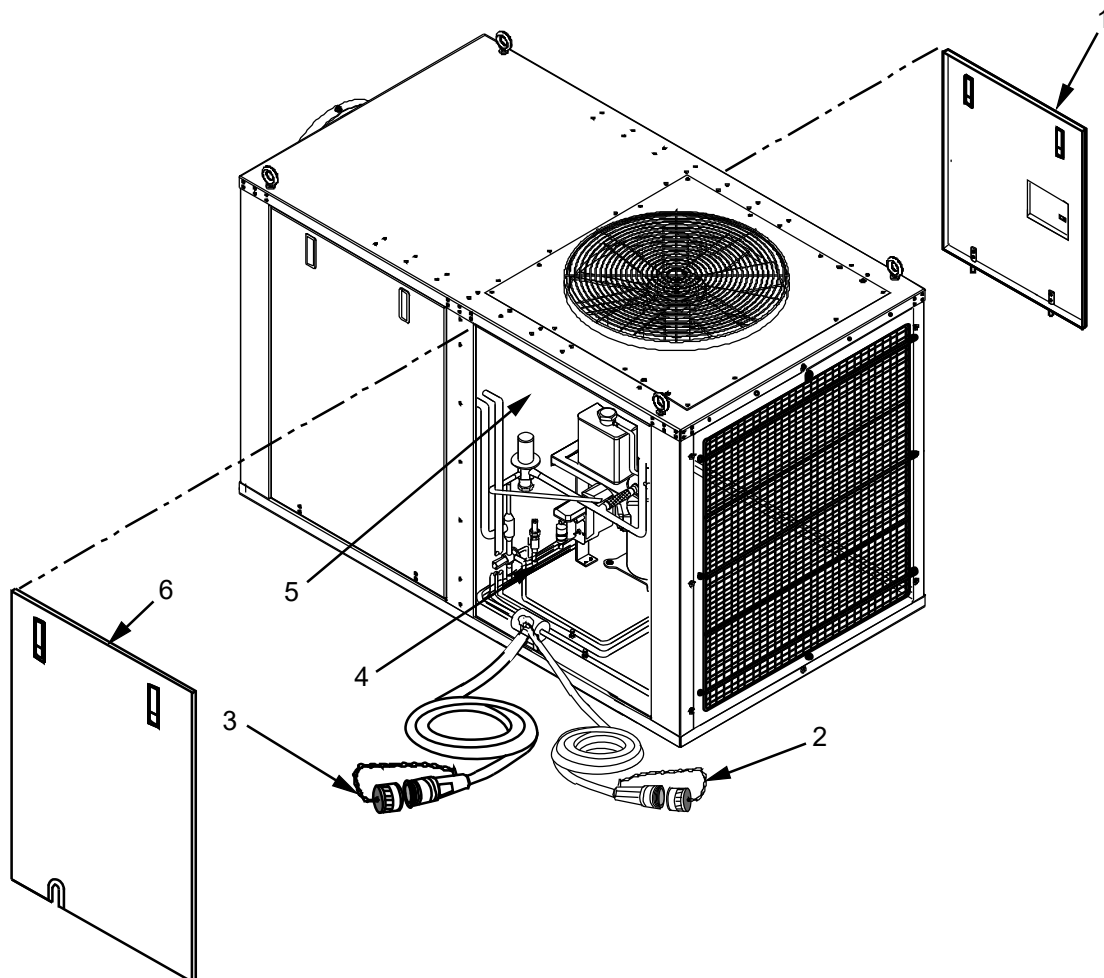

Figure 6. Prepare to Replace ECU Power Cable.
2. Remove ECU Front Panel (Figure 6, Item 6) and Rear Panel (Figure 6, Item 1) and set aside.
2. Disconnect ECU power cable (Figure 6, Item 3) from Power Source.
3. Disconnect ECU communications cable (Figure 6, Item 2) from the associated Genset.
4. Remove all cable ties (Figure 6, Item 4) that secure ECU power cable to other cables and to ECU Bulkhead (Figure 6, Item 5).
14. Route the remaining end of power cable through the bottom of the ECU along the bulkhead (Figure 6, Item 5) and over to the forward access panel (Figure 6, Item 6).
15. Use cable ties to secure the power cable to various positions along the bottom of the ECU bulkhead Figure 6, Item 5).
4. Remove all cable ties (Figure 6, Item 4) that secure ECU communications cable to other cables and to ECU Bulkhead (Figure 6, Item 5).
6. Route communications cable through ECU body and secure to other cables and to ECU bulkhead (Figure 6, Item 5) with strap ties.
9. Replace ECU Front Panel (Figure 6, Item 6) and Rear Panel (Figure 6, Item 1).
10. Connect ECU communications cable (Figure 6, Item 2) to the associated Genset.
11. Connect ECU power cable (Figure 6, Item 3) to Power Source.